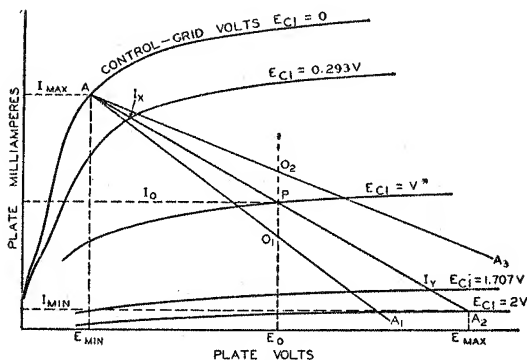

Fig. 43—Graphic calculations for class A amplifier using a pentode or beam power tube.
**Power output for a pentode or a beam power tube as a class A amplifier** can be calculated in much the same way as for triodes. Calculations can be made graphically from a special plate family of curves, as shown in Fig. 43.